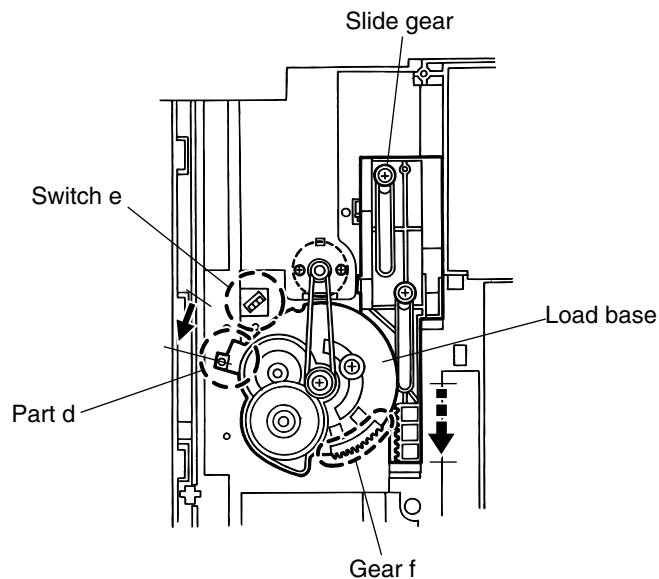

Fig.23
1. Move the slide gear toward the front until it stops (Fig.23).